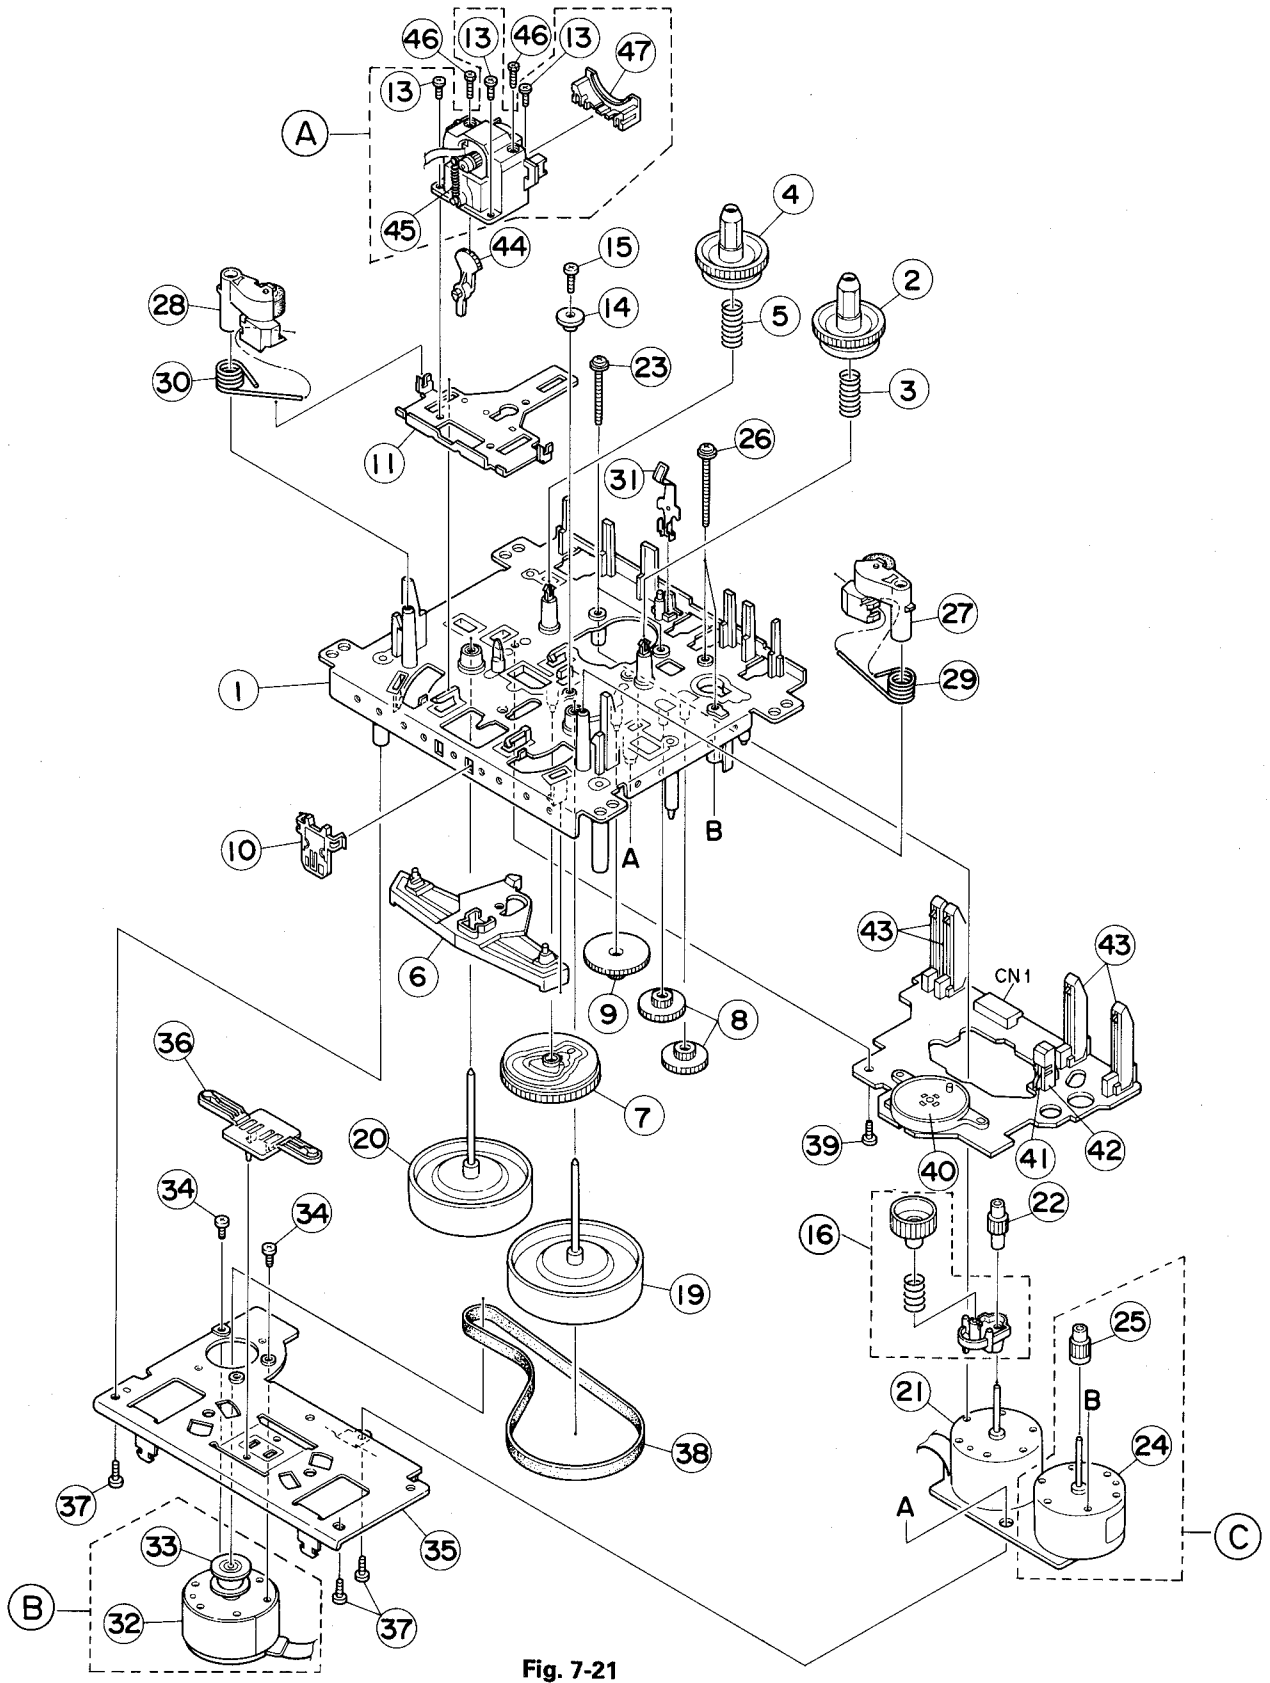
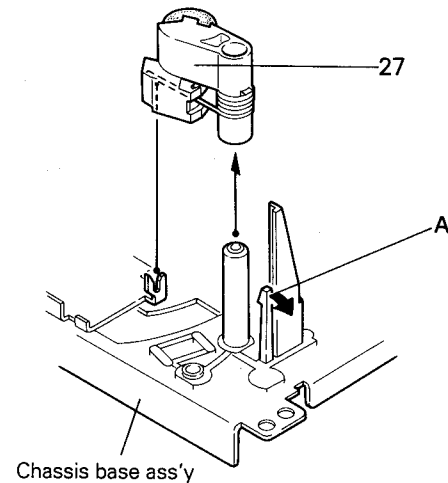

Fig. 7-21
Fig. 7-23
■ **Head mount assembly (A)** (Fig. 7-21, 7-22)
■ **Pinch roller assembly** (Fig. 7-23)
1. Expand the pawl (A) retaining the pinch roller assembly (27) on the right side in the direction of the arrow while pulling out the pinch roller assembly upwards.
2. In the same manner as above, expand the pawl retaining the pinch roller assembly (28) on the left side to remove the left pinch roller assembly. (Fig. 7-21, too)